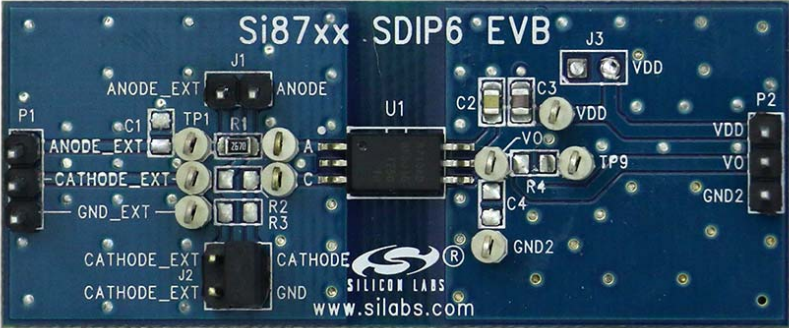

Figure 3. Si871x SDIP6 Evaluation Board Overview
2. If demonstrating the SDIP6 EVB featuring the Si8719, ensure that J2 is installed as shown in Figure 3.